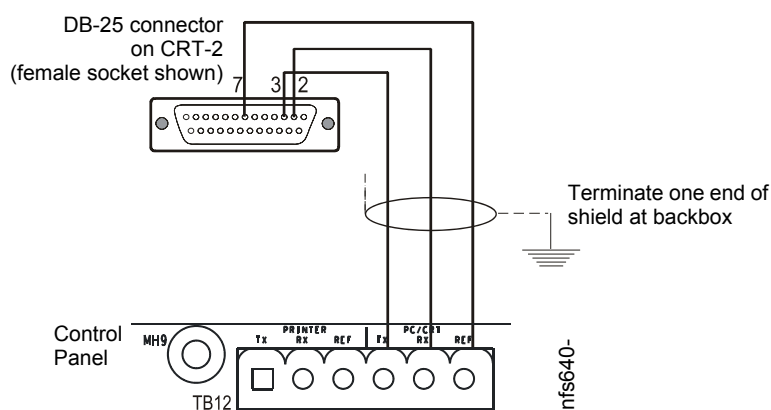

Figure 3.7 Connecting a CRT-2
1. Connect the three (3) open leads of the custom cable to the TB12 terminal block on the control panel as shown in Figure 3.7.